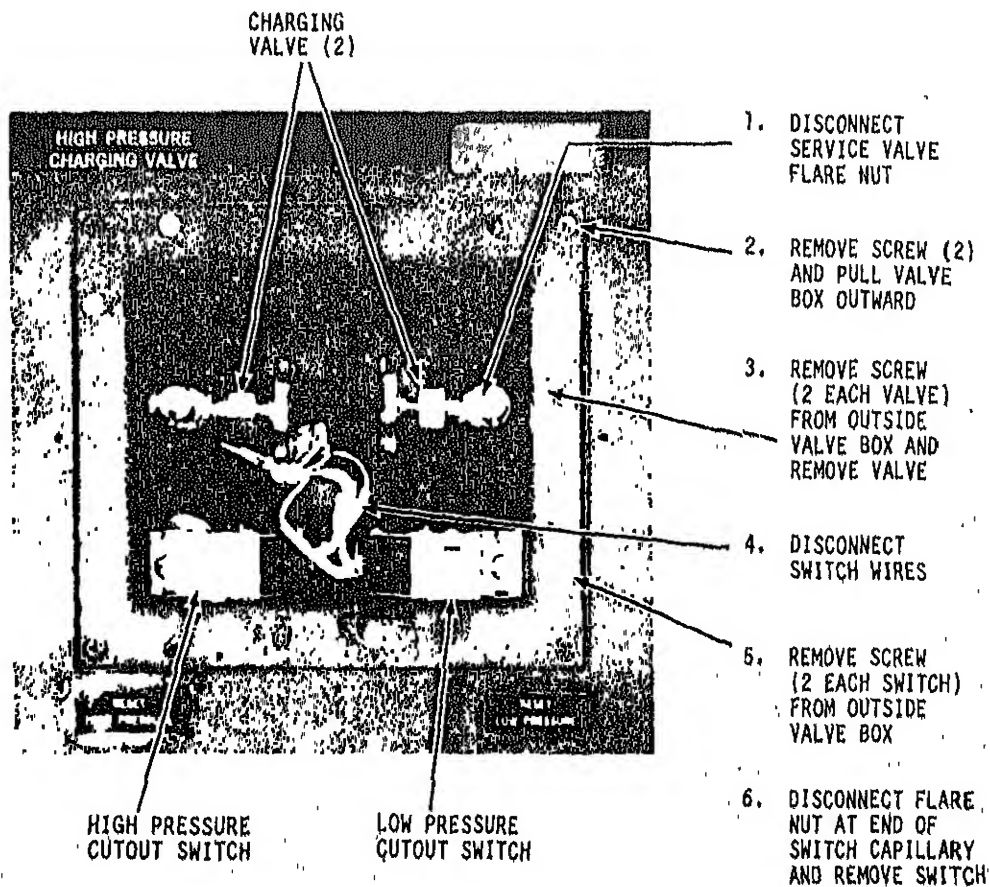

Figure 5-6. Service valves, high and low pressure cutout switches, removal and installation
(3) Refer to figure 5-6 and disconnect the service valve flare nuts.
(4) Remove four screws and pull charging valve box outward as allowed by the cutout switch wiring and capillary tubes. Take care not to damage the capillary tubes.
(5) Remove service valve by removing mounting screws on side of charging valve box.
(1) Refer to figure 5-6 and mount service valve in charging valve box.
(2) Place charging valve box in position and attach to housing.
(3) Attach refrigerant line flare nut to service valve.
(3) Refer to paragraph 5-21 and disconnect the service valve flare nuts.
(4) Remove four screws and pull charging valve box outward as allowed by wiring and capillary tubes. Take care not to damage the capillary tubes.
(5) Refer to figure 5-6 and disconnect the pressure cutout switch electrical leads.
(6) Remove pressure cutout switch mounting screws on side of charging valve box.
(1) Refer to figure 5-6 and install capillary tube and grommet in charging valve box.
(2) Mount pressure cutout switch to charging valve box.
(3) Attach pressure cutout switch and charging valve flare nuts to refrigeration lines.
(4) Refer to para 5-6 and leak test the refrigeration system.
(5) Place charging valve box in position and attach to housing.